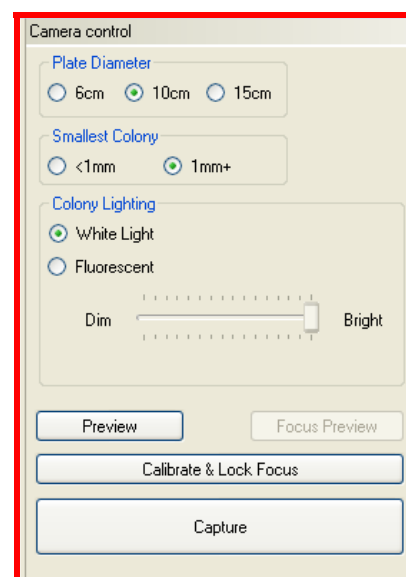

Fig. 3 - Camera Control Software Interface
- From the ColonyDoc-It software (Fig. 3) camera control panel, select the **Plate Diameter** size for the inhibition zone sample.